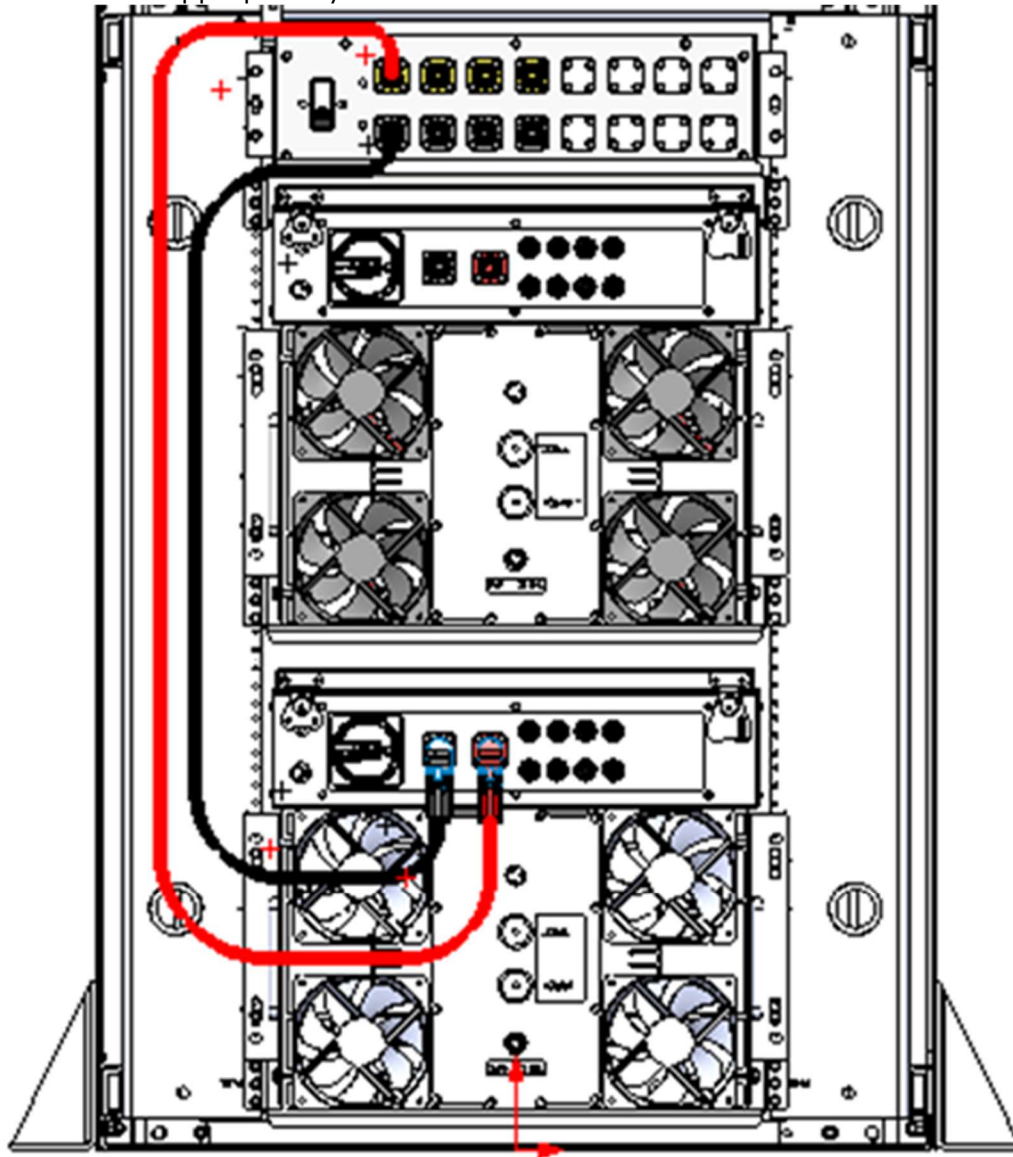

FIGURE 18: SURLOK CABLING ROUTED JBOX TO PRIMARY FEED #1
- (4) 4-foot power cables with SurLok connectors connect SPOT/BOSS units #2 and #3 to the JBOX
- Route all cables along the left-side stanchion as shown in Figure 18.